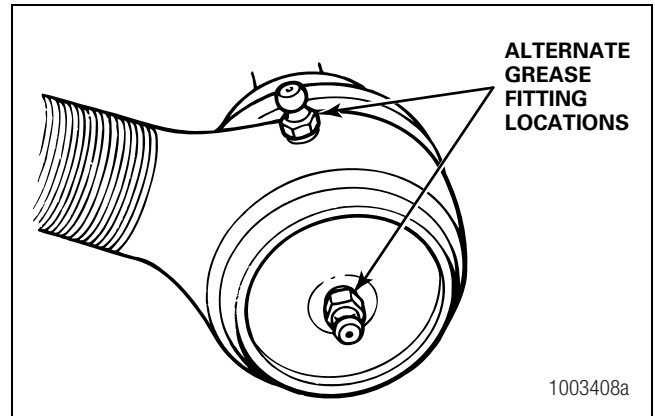

Figure 5.14
- **If the tie rod ends are non-greaseable:** Do not install a grease fitting if the tie rod end is the non-greaseable type. Figure 5.14.